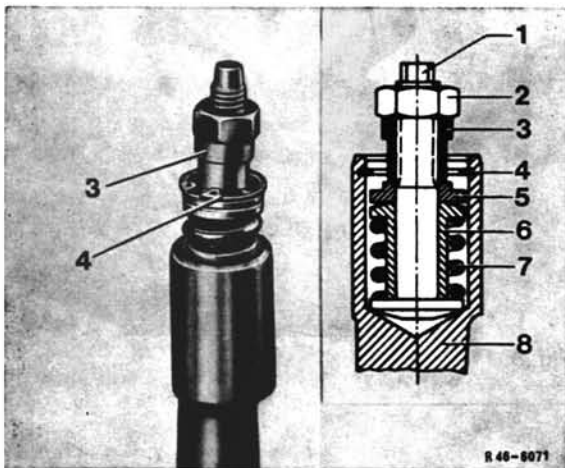

Fig. 6
- 17 Slip matching thrust piece over adjusting screw of pitman shaft and tighten adjusting device with hex. nut. Remove locking ring and take adjusting screw with thrust washer, thrust sleeve and compression spring out of pitman shaft. Fig. 6.